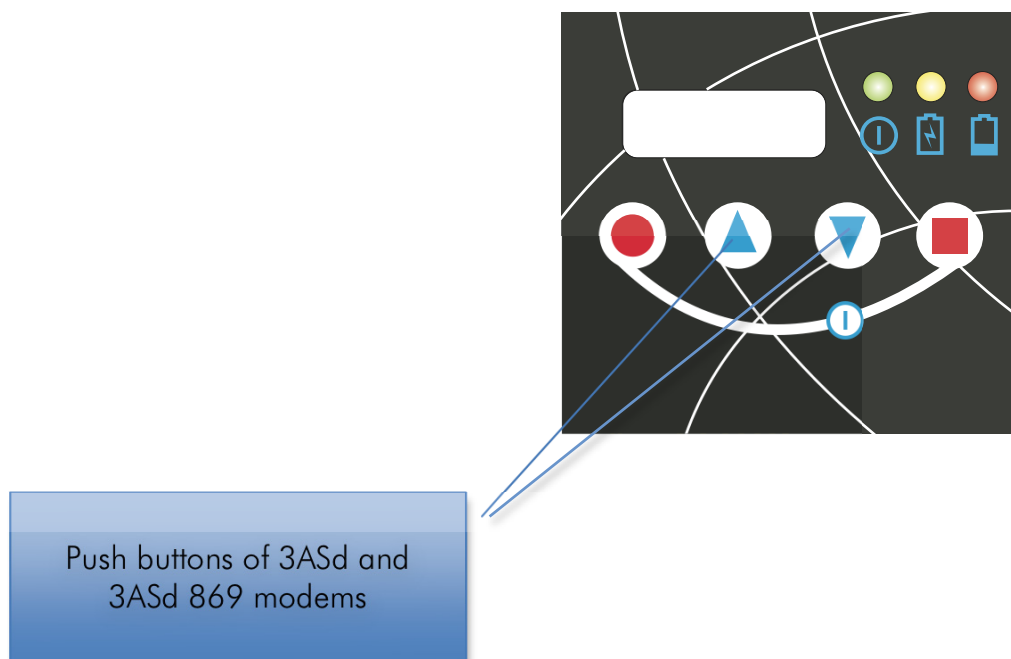

Figure 5. The pushbuttons of the SATEL-321 front panel.
The SATEL-321 front panel contains pushbutton symbols. The front panel is a thin film which forms tactile feed through areas indicated by the four (4) pushbutton symbols (see Figure 5). The use of the pushbuttons corresponds to the use of the radio modem pushbuttons. For more information, please see the corresponding radio modem User Guide.